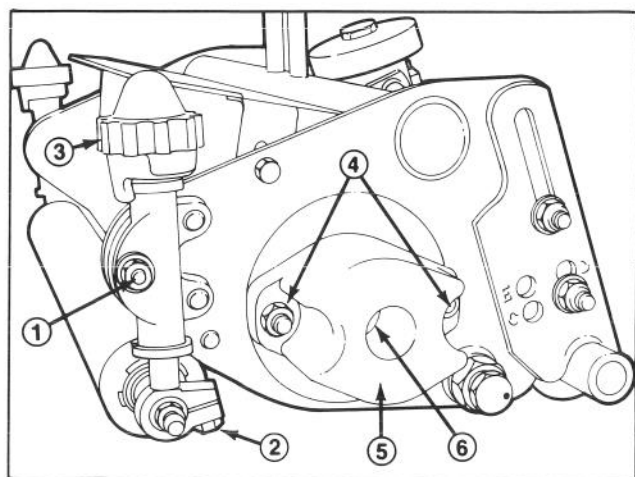

Figure 17
1. Loosen the locknuts securing the height of cut adjusting rods at both ends of the cutting unit and the roller shaft clamp bolts (Fig. 17).
2. Turn the height of cut adjustment knobs until they are disconnected from the height of cut adjusting rods (Fig. 17). The knobs are captivated on the upper washer face of height of cut clamp.
2. The reel bearing drag should be from 5 to 9 inch pounds. This can be measured with a torque wrench (Fig. 17).
1. Remove the mounting nuts from the counterbalance end cap and remove end cap from the mounting studs (Fig. 17).
3. With the wrench mounted, hold the reel and tighten the large reel bearing adjustment nut (Fig. 17). Tighten until the drag on the reel meets 5 to 9 inch-pound specification.
1. Remove counterbalance End Cap (Fig. 17).
2. Remove the large bearing adjustment nut from one end of the reel shaft (Fig. 17) and the special spline nut at the opposite end of the reel shaft.